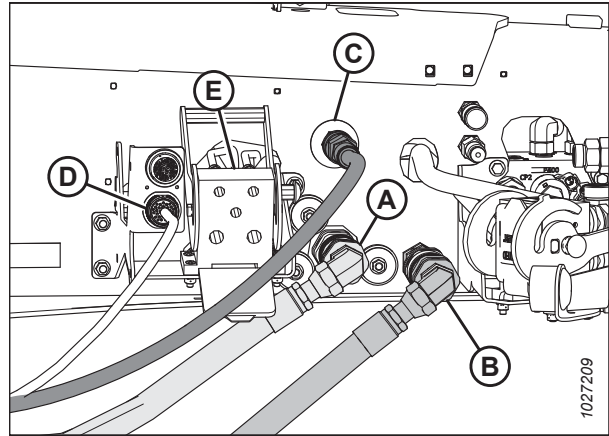

Figure 3.101: M1240 Hydraulic and Electrical Connections – Draper Ready Configuration
The hydraulic hoses should have enough slack to pass by multicoupler (E) in Figure 3.101, page 72 without contacting it. You can increase the slack in the hoses by loosening and adjusting the hose holder on the front windrower leg and by pulling the hoses back toward the windrower.